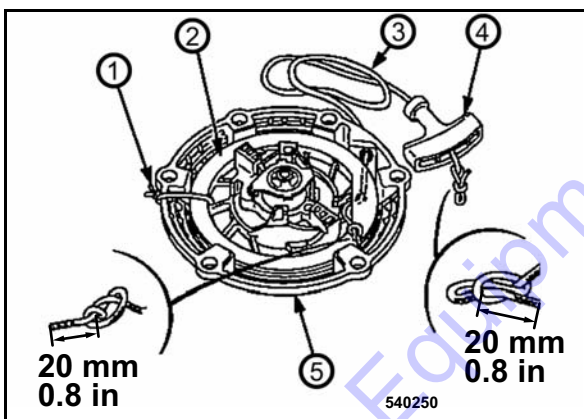

Fig. 69
- Secure the coil (2) (Fig. 69) against winding up. For this purpose fix coil and housing (5) with a cable strap (1).
- Thread in the new starter rope (3) and fix at both ends with knots.